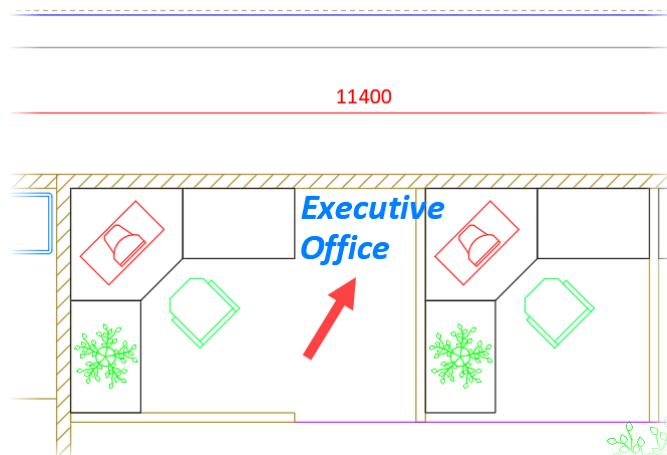

Figure 8.34: The annotative text object in the 1:50 viewport
9. If you return to the **ISO A3** layout tab, you will also see that the *Executive Office* text object is displayed in the **1:50** (upper) viewport. This is because it now has the **1:50** annotation scale applied to it in the **Model** tab. *Figure 8.34* shows this, and you can see that using that text style with the **1:50** annotation scale in that viewport causes it to cross geometry and look a bit untidy.